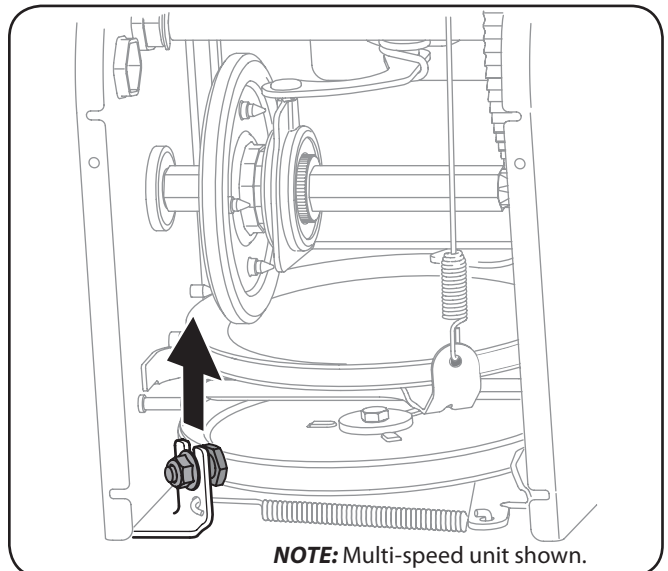

Figure 7-4
6. Loosen and remove the shoulder bolt which acts as a belt keeper. See Figure 7-4.